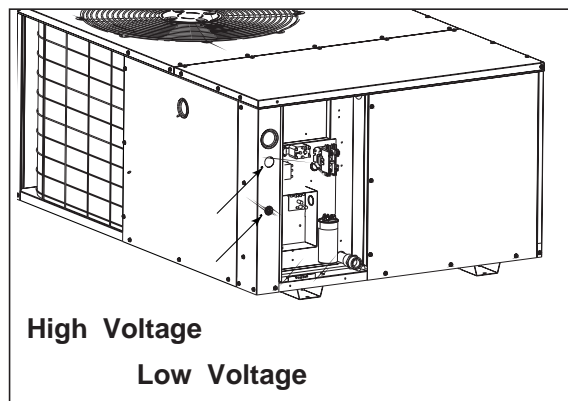

Figure 9. Power Entry
- b. Extend leads through power wiring hole provided. Connect L1 and L2 directly to the contactor. (See Figure 9).